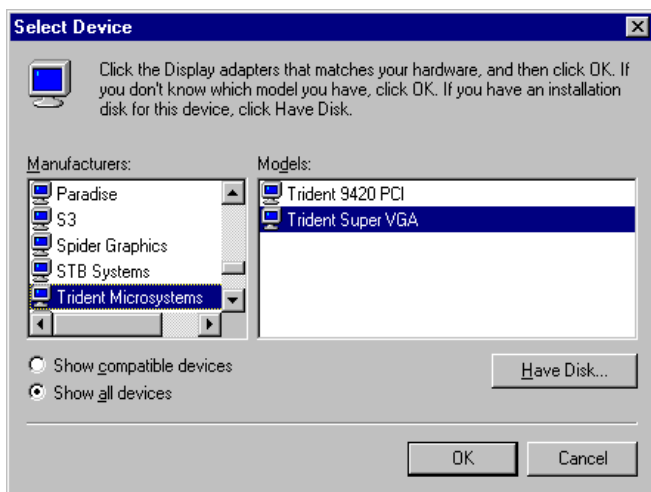

Figure 3-4.
5. On the “Select Device” page, **SELECT** the “Have Disk” button to install the Trident display driver from Disk 2 of the Drivers and Utilities diskette (refer to Figure 3-4).